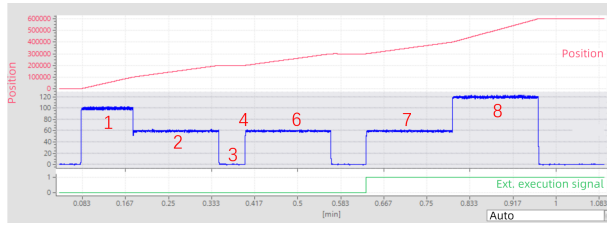

Figure 2-55 Servo axis operation curve
5. Set the parameters as shown above to get the servo axis operation curve as shown in *"Figure 2-55 " on page 64* . The numbers on the diagram correspond to the program blocks.
- As shown in "Figure 2-55" on page 64, the subsequent condition of block 1 is intermittent execution, so there is a certain deceleration and acceleration process between blocks 1 and 2.